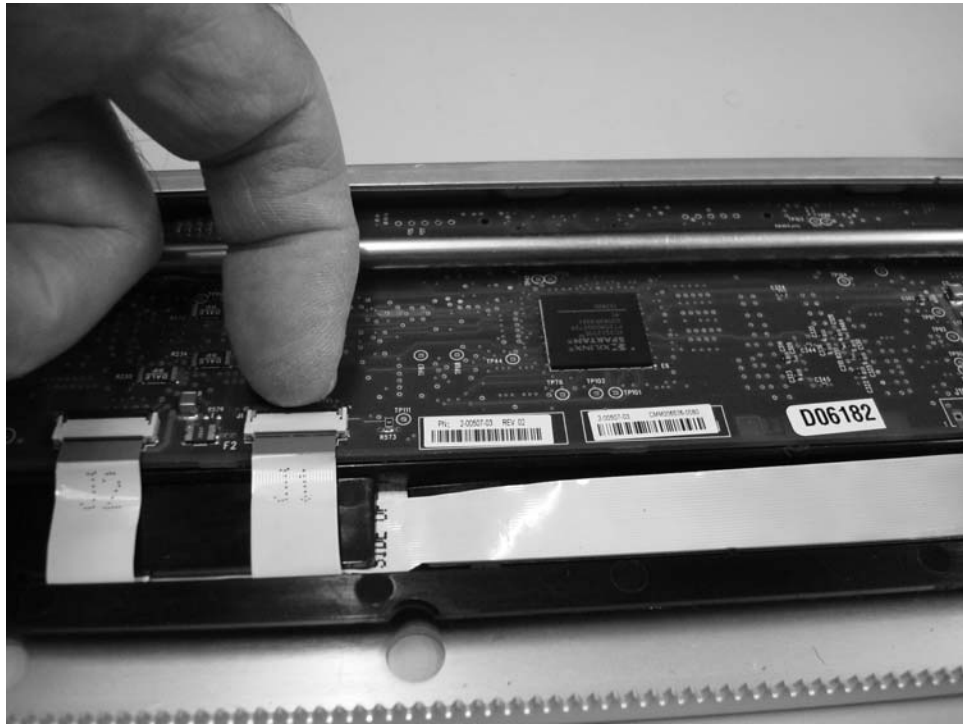

Figure 8-67. Lift the lever clamp on the back of the connectors
- b. Lift up the small lever/clamp on the back of the connector to release the flex cable. (Figure 8-67 on page 8-67)